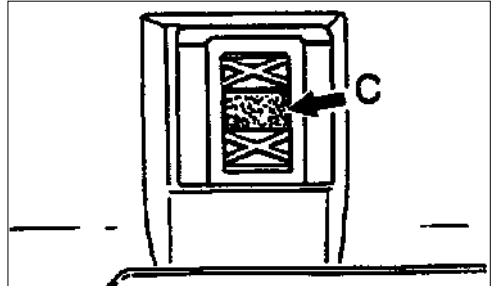

Figure 23
- With roof trim panels removed, glue foam pieces, approx.. 12 X 10mm and 5mm thick in the indentations of the securing part (Figure 23, arrow C)
**Important:** The glued-in foam pieces (Figure 23, arrow C) must stand approx.. 1 to 2mm over.